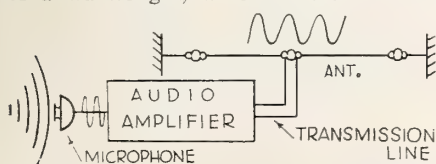

FIGURE 2. A theoretical transmitter.
**A** RADIO communication system comprises a generator of high frequency electro-magnetic waves and a device that can receive these waves without the benefit of wires. The high-frequency generator, together with its amplifiers and other associated equipment, is known as the "transmitter." This transmitter could, theoretically, consist of a microphone, an amplifier, and a radiator in the form of an antenna. Such a theoretical transmitter is shown in Fig. 2.
length of the antenna would be  $\frac{1}{4}$  or  $\frac{1}{2}$  of the value found in the formula. Assuming that the average audio frequency were 5 kilo-cycles, then the wavelength would be 60,000 meters. A meter is 39.37 inches, or slightly more than one yard in length. This means that the antenna should be approximately  $\frac{1}{4}$  or  $\frac{1}{2}$  of 200,000 feet long. Such a length is too long to be of practical value. Other technical difficulties also present themselves, so that the set-up shown in Fig. 2 is never used.